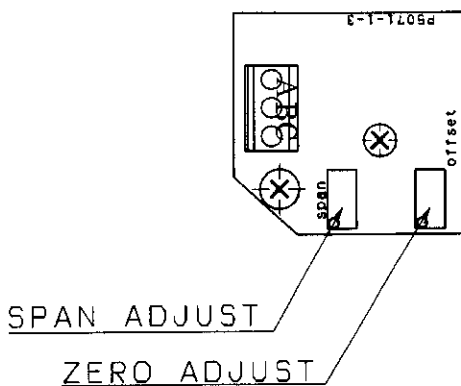

Fig.2 P.C.board
- ① Set actuator's output opening to 0% after adjusting the zero span.
- ② Classification of accessory: For J, Output signal is connected to rise in normal operation (clockwise). To apply the positioner in reverse operation (counter-clockwise), specify the classification of accessory, JR, beforehand. Rearrange the cam to the opposite side and switch the terminal "A" and "C" of the substrate in Figure 2 to change the operating direction of the delivered product and output direction of the output signal.